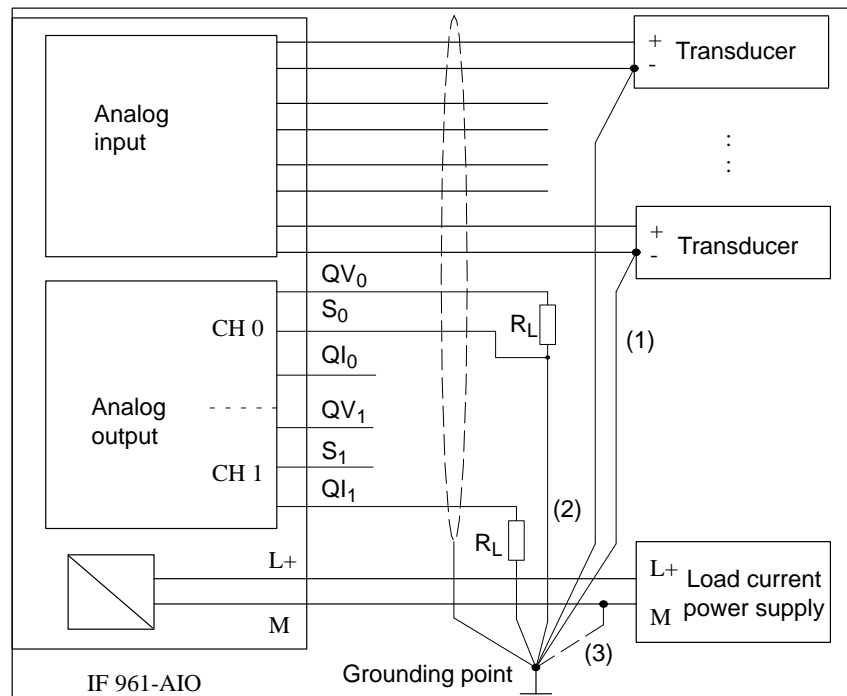

Figure 12-12 Grounding of the Analog Inputs/Outputs of the IF 961-AIO Interface Submodule
If the maintenance of the common-mode range (U_{CM}) cannot be guaranteed, the analog inputs must be grounded directly. The ground conductors of the individual analog inputs (1) and the screen must be routed **separately** to the grounding point. Please see Figure 12-12 for the grounding of analog inputs.